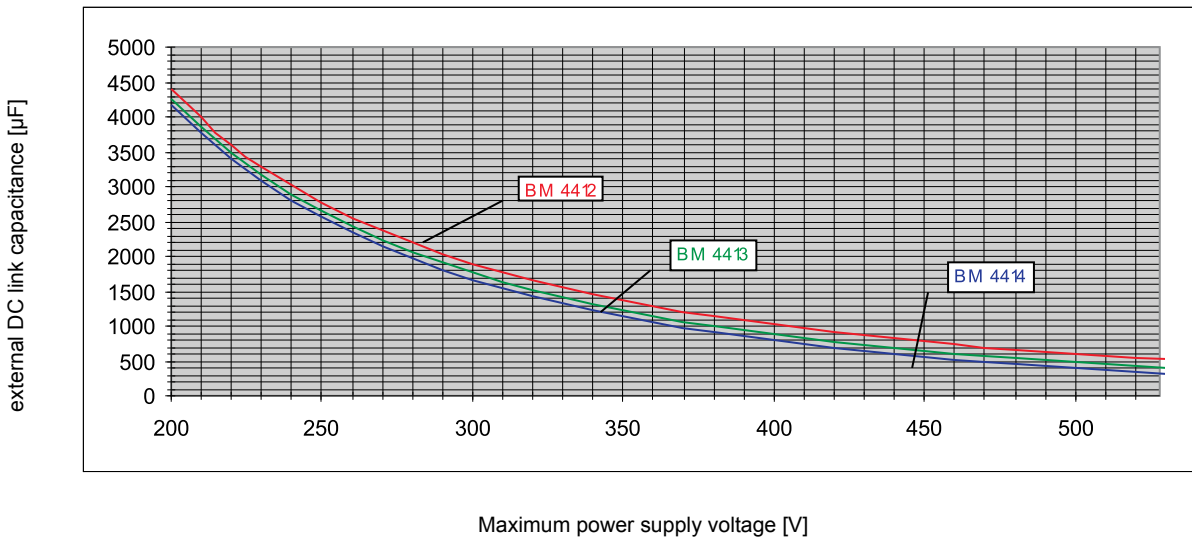

Figure 33: Maximum external DC link capacitance BM441X
DC link capacitance (external), permitted	Refer to ▶Figure 33◀ on page 67
- ¹¹⁾The specified value is valid only, if no additional DC link capacitance is connected to the DC link terminals. Refer to Power on switching frequency / DC link charging on page 231 and Figure 33 on page 67.